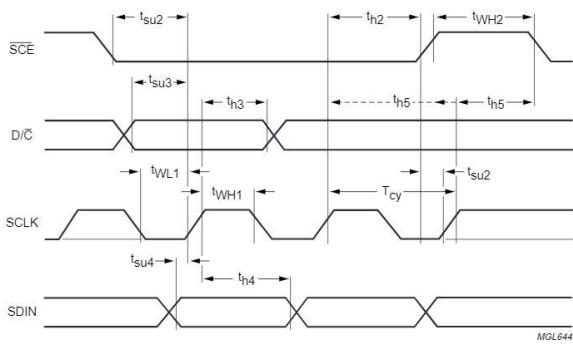

Fig.15 Serial interface timing.
3. t_{h5} is the time from the previous SCLK positive edge (irrespective of the state of \bar{SCE}) to the negative edge of \bar{SCE} (see Fig.15).